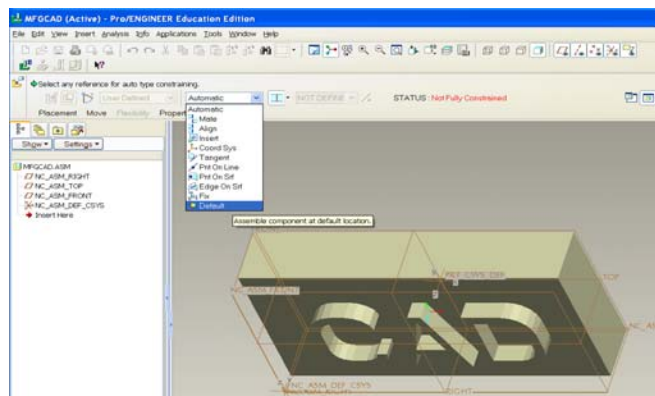
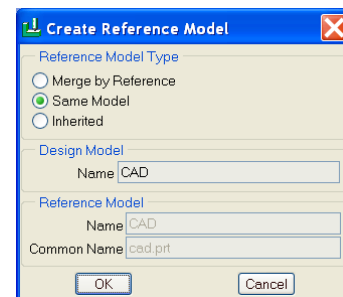

Figure 1.16
Figure 1.17
4. Load the part. From MANUFACTURE menu, select Mfg Model → Assemble → Ref. Model. Select cad.prt in the open window. The component Placement window pops up. Select  to place the part at default location as shown in Figure 1.16 and click OK. Click OK to close Create Reference Model as shown in Figure 1.17.